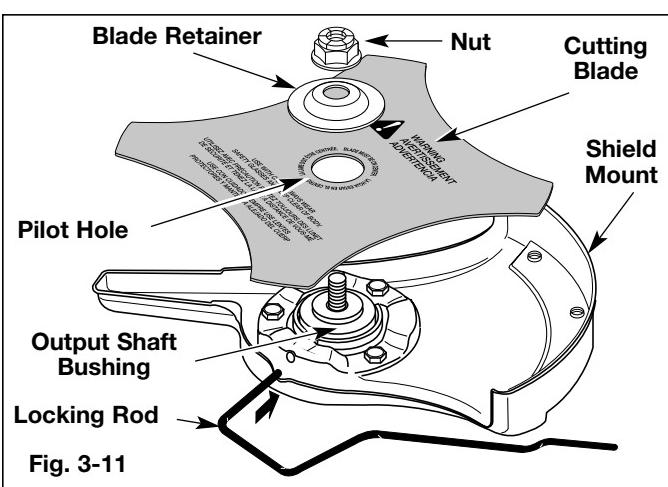

Fig. 3-11
4. Place the cutting blade on the output shaft bushing (Fig. 3-11).